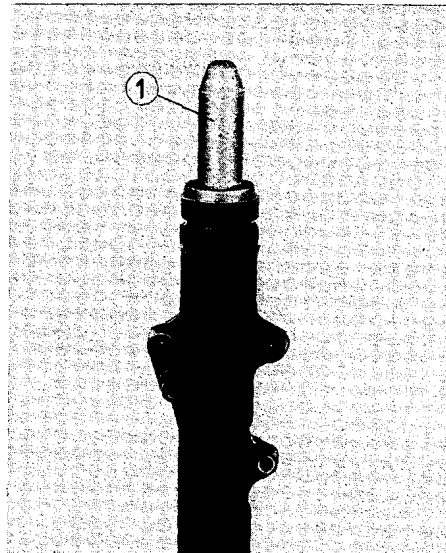

Fig. 111. Pressing the shaft seal ring in place
Mount the thrust washer (2) and the lock ring (1) according to Fig. 111. Pay attention to the proper seat of the lock ring.